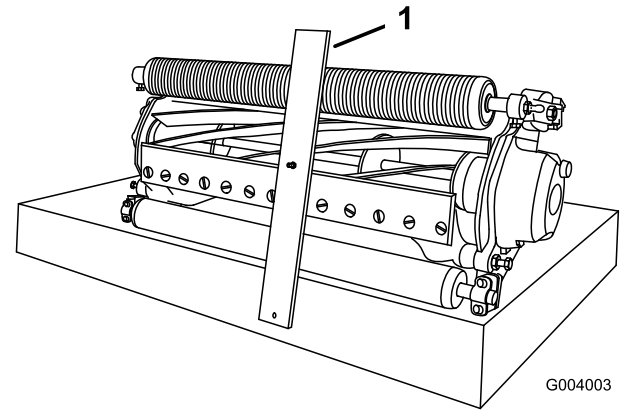

Figure 55
3. Hook screw head on cutting edge of bedknife and rest rear end of bar on rear roller (Figure 55).